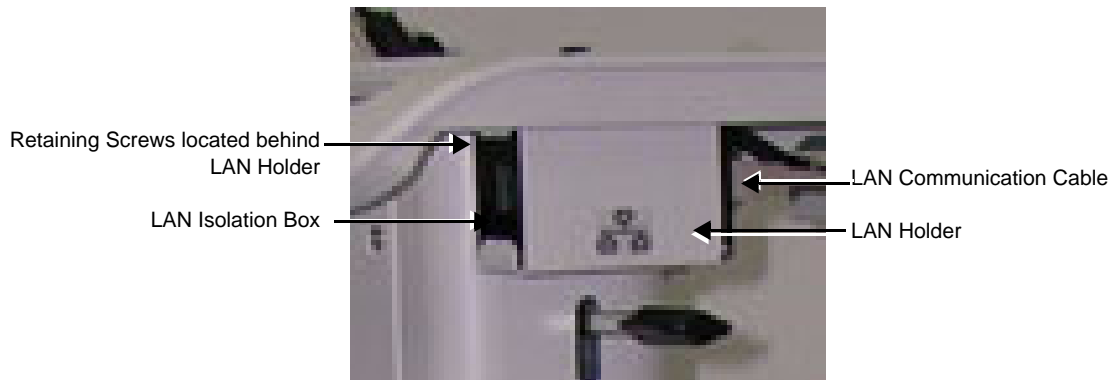

Figure 8-99 LAN Holder and Isolation Box
- 2) From below the Top Shelf, remove the two LAN Holder retaining screws (see Figure 8-99) and remove the LAN Holder.